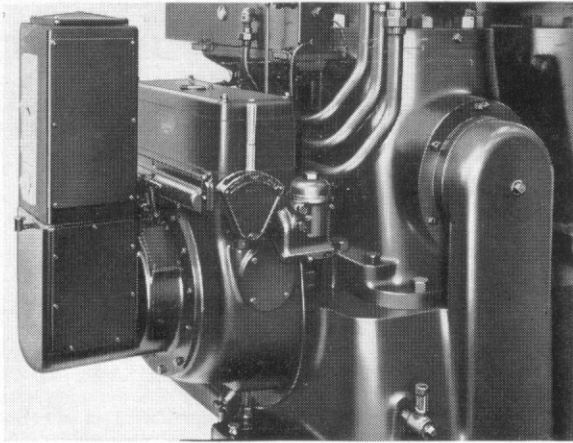

Fig. 3. Fuel Control Mechanism (6509G)
Control of Injection System—Control of the injection system is centered in the hand lever at the right of the fuel pump housing. It has three positions, "Prime," "Run," and "Stop" which are plainly marked on the quadrant. The hand lever is attached to a control shaft which has cams for lifting the pump plungers (B) and the suction valves (P). See Fig. 3.